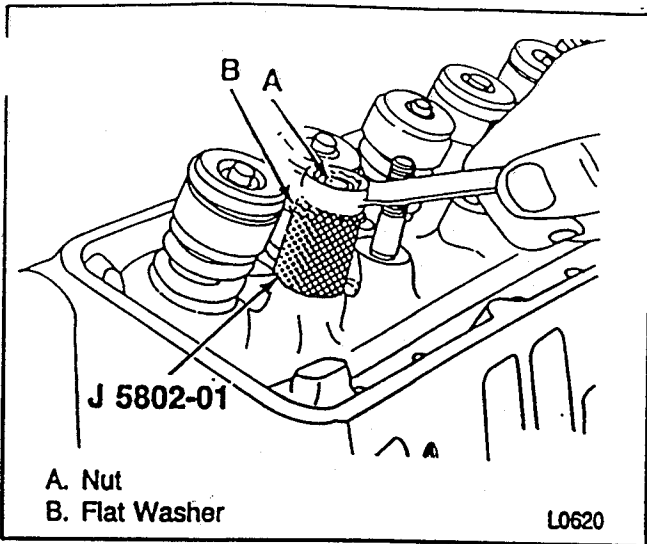

Figure 58—Removing the Rocker Arm Stud (5.0L and 5.7L Engines)
1. Place J 5802-01 over the stud to be removed. Install a nut and flat washer. Remove the stud by turning the nut (figure 58).